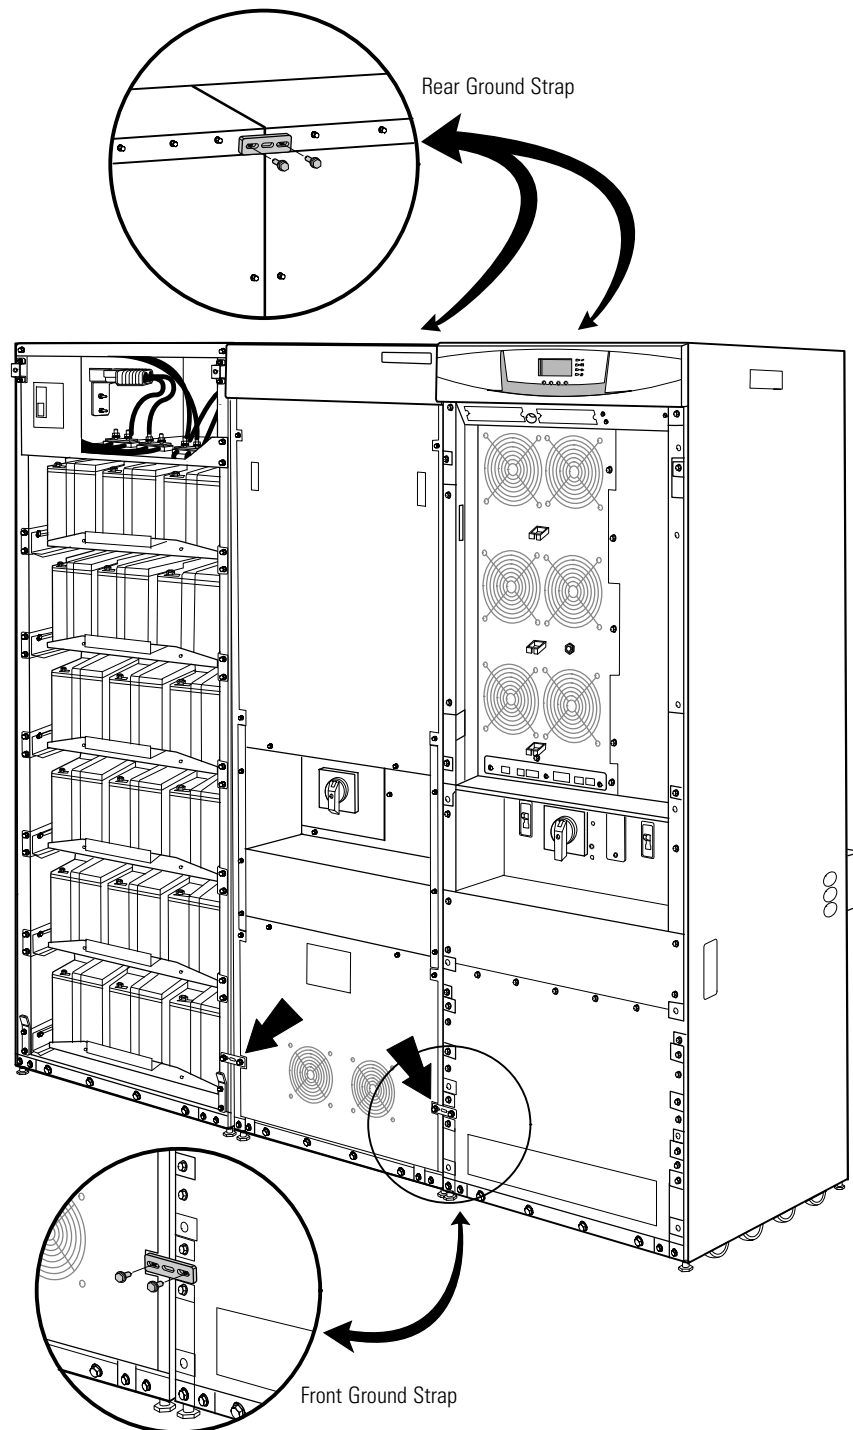

Figure 11. Ground Strap Installation
- 12.** Install one ground strap between the rear panels of the adjacent cabinets as shown in Figure 11.
- 13.** Install the other ground strap between the front panels of the adjacent cabinets as shown in Figure 11.